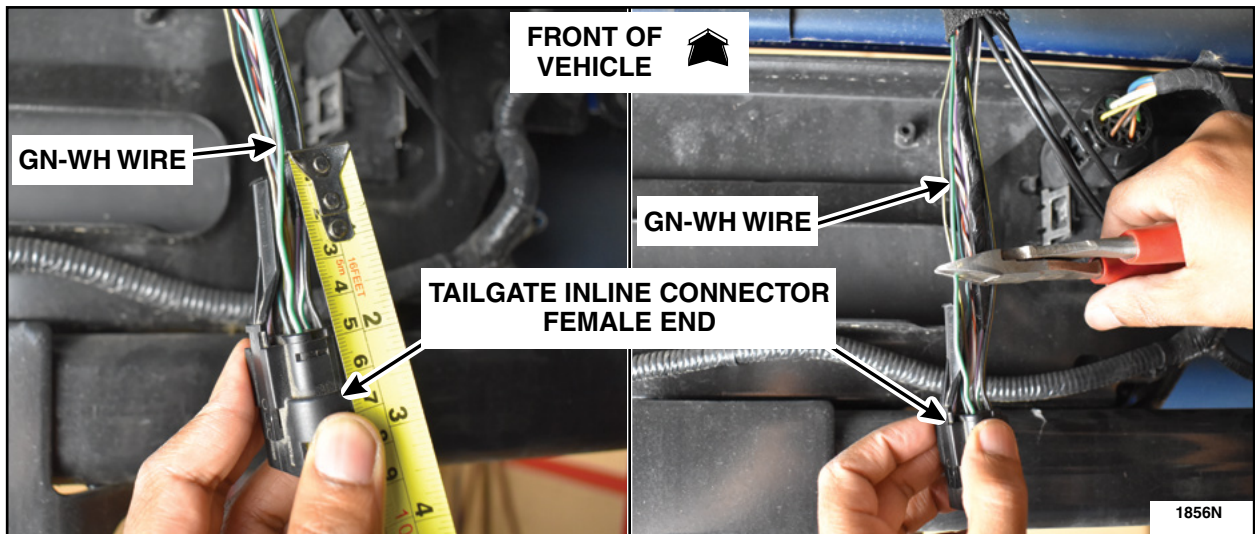

FIGURE 16
19. Measure 50 mm (2 in) from the back side of the tailgate inline connector female end and cut the GN-WH wire (16 pin connector: cavity 8 OR 12 pin connector: cavity 12). See Figure 16.